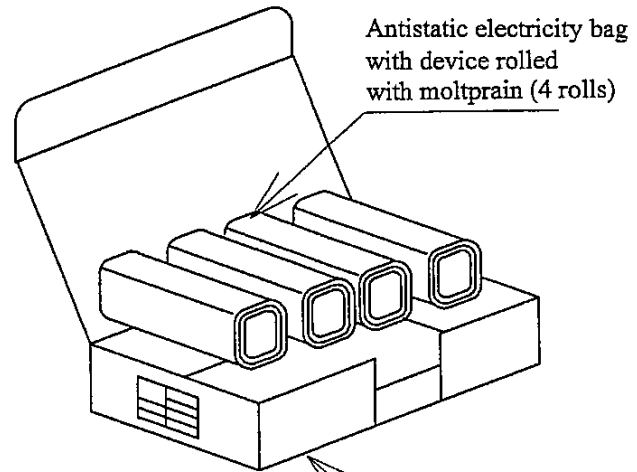

Fig.3
3. Seal the packing box, and print the model No., quantity and lot No. (400pcs. / a packing box) (Fig. 3)